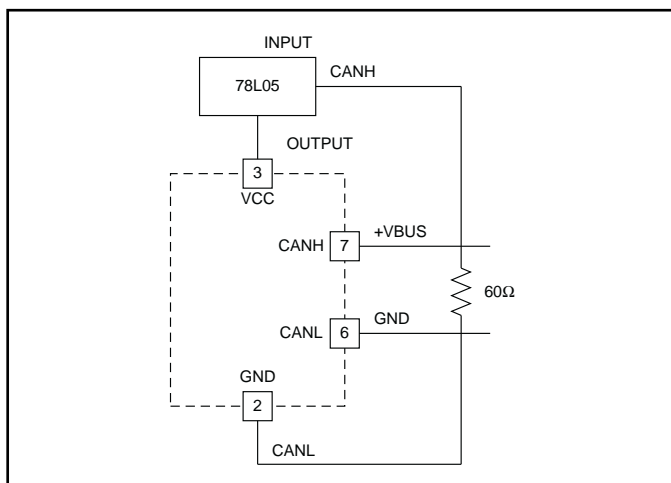

Figure 9. Crosswire No. 1
**Refers to Figures 9, 10, 11, 12 and 13.*